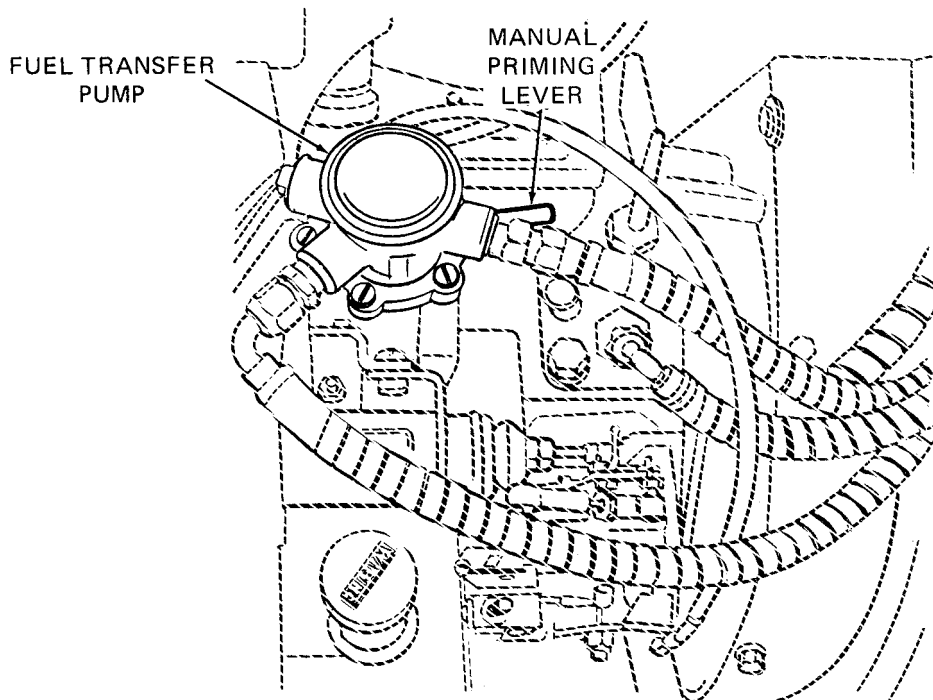

Figure 2-5. Manual Priming Lever and Fuel Transfer Pump Connection.
- e. If fuel filter has been removed for any reason, or if bleed screw on top of filter was opened to drain the filter, be sure bleed screw is tight and use manual priming lever on fuel transfer pump to prime fuel system (see Figure 2-5) .